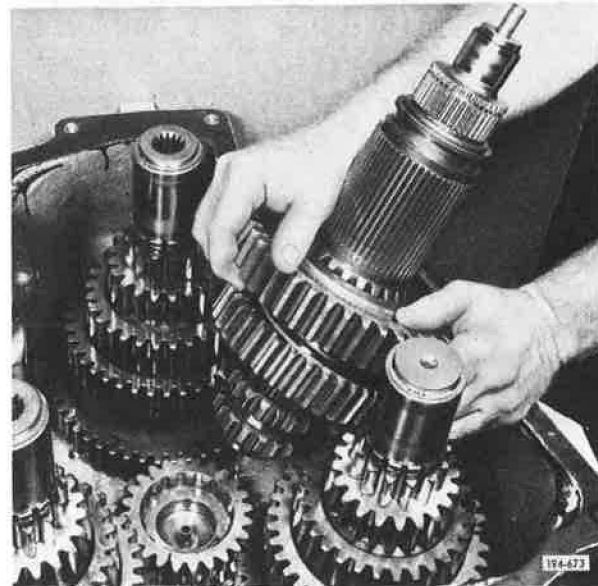

Figure 5-261. Removing Front Mainshaft Assembly
9. Remove front mainshaft assembly. See Figure 5-261.